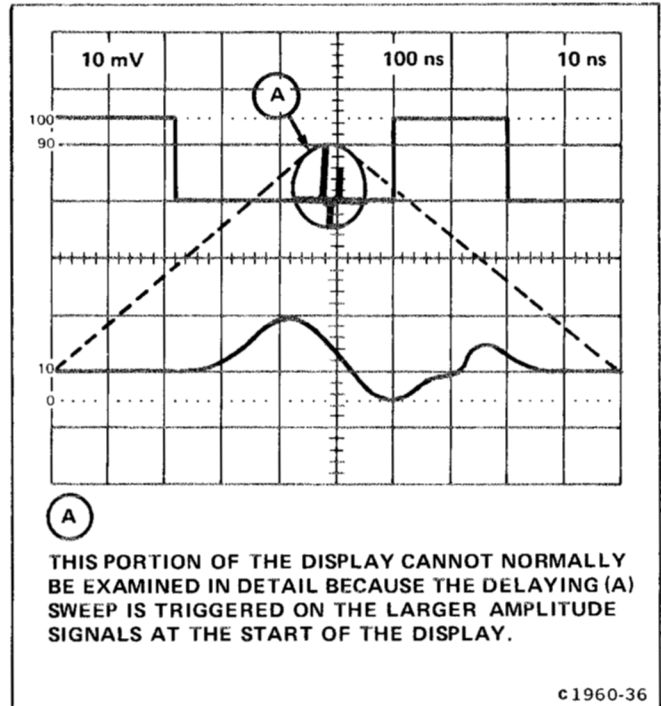

Figure 2-9. Magnifying a selected segment of the delaying (A) sweep in the delay-time mode with mainframe alternate or chopped horizontal operation.
5. To magnify a selected segment of the delaying (A) sweep waveform and determine apparent magnification in the delay-time mode:
- b. Set the appropriate triggering, position, deflection-factor, and sweep-rate controls for the desired dual-trace display. See the example in Figure 2-9.
*If there is excessive jitter in the delayed (B) sweep display, refer to the Triggered Delayed Sweep Magnification discussion.*
- c. Turn the DELAY TIME control to position the intensified zone to the portion of the delaying (A) sweep waveform to be magnified.
- d. Set the delayed (B) sweep unit sweep rate to select the desired duration of the magnified display as indicated by the length of the intensified zone.
- e. Observe the magnified display on the delayed (B) sweep. See Figure 2-9.
*For a better look at the delayed (B) sweep waveform, set the mainframe to the B horizontal mode and the amplifier plug-in unit deflection factor to increase the display amplitude. Do not change the 7B15 TIME/DIV setting.*
f. Determine apparent magnification by dividing the 7B15 TIME/DIV setting by the delayed (B) sweep unit sweep-rate setting.
Example: The apparent magnification of the delayed (B) sweep shown in Figure 2-9 with a 7B15 TIME/DIV setting of .1 millisecond and a delayed (B) sweep unit sweep-rate setting of 1 microsecond is: